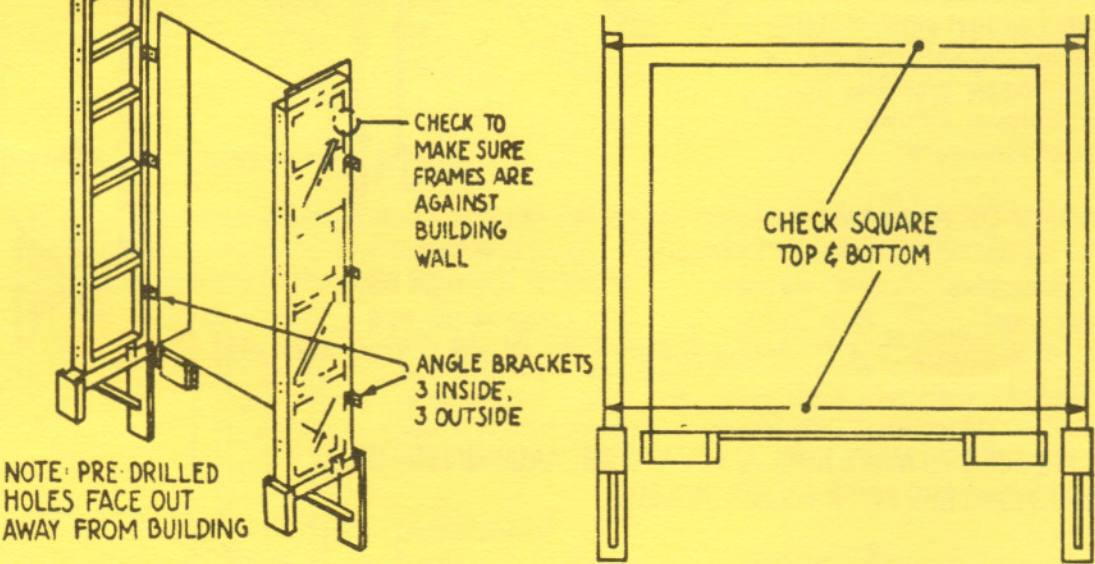

FIGURE 2. ATTACHING TRANSLUCENT PANELS
- 2. Attach translucent fiberglass light panels to rigid verticals using nails provided. Light panel is three inches longer than rigid vertical. This three inches should all be at **TOP** of vertical (see Fig. 2). It eventually will cover end of rigid header.
- 3. Attach translucent fiberglass light panel to the top of the rigid header with nails provided. The header light panel is three inches longer than the header; let 1 1/2 inches extend at each end (see Fig. 2).